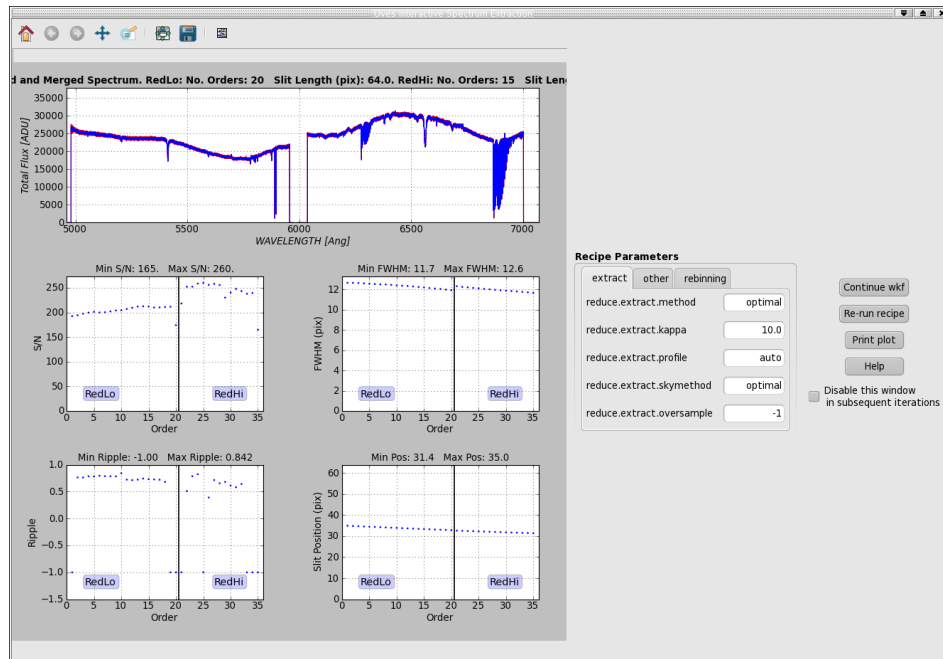

Figure 7.0.7: The interactive window for the Spectrum Extraction actor for the first DataSet in the data supplied with Reflex 2.1.
- Spectrum Extraction:** In Figure 7.0.7, we show the interactive window associated with the Spectrum Extraction actor, which executes the UVES pipeline recipe `uves_obs_scired`. This pipeline recipe performs the extraction of the science object spectrum using optimal extraction (Horne 1986), automatically selecting an analytical spatial profile (Gaussian or Moffat) in the case of low S/N spectra ( $S/N < 10$ ) or an oversampled empirical spatial profile otherwise, and automatically determining the degrees of the low-order polynomials involved in the extraction process. The top plot in the interactive